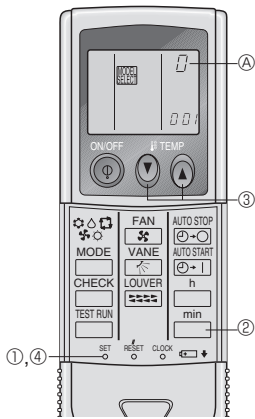

Fig. 6-9
3) IR wireless remote controller pair number setting operation (Fig. 6-9)
- ① Press the SET button with something sharp at the end.